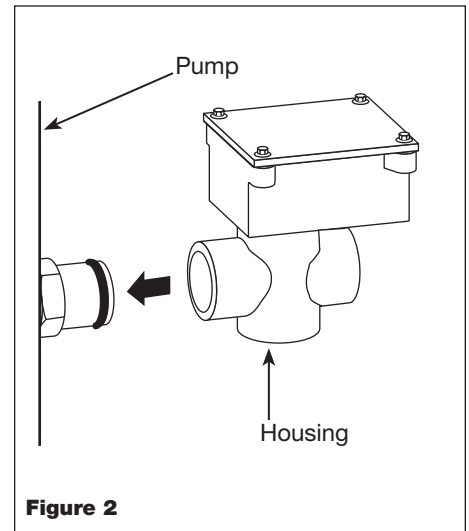

Figure 2
5. Apply a small amount of oil to the o-ring and push the oil level guard housing on to the adapter (See Figure 2).